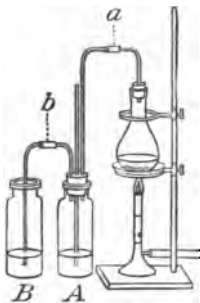

Fig. 32.
1. (Rule 3.) Arrange a flask and 2 bottles with connections as in Fig. 32 (see also a Model). (Rule 6.) The rubber stopper in the bottle *A* has 3 tubes, only one of which (the safety tube) extends below the water. (Rule 4.) The second bottle has no stopper, and the tube just dips into the water. There are rubber connectors at *a* and *b*.